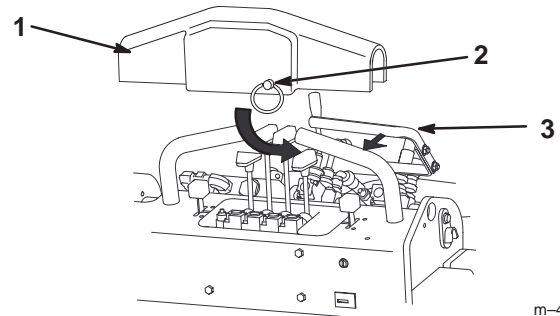

Figure 14
- Pull the auxiliary hydraulics lever to the operator grip and install the hydraulics lever clamp by pushing it over the hand grip and sliding it right so that the pin through the clamp slides under the right hand grip (Fig. 14).
5. Remove the hydraulics lever clamp (Fig. 14 or 15).